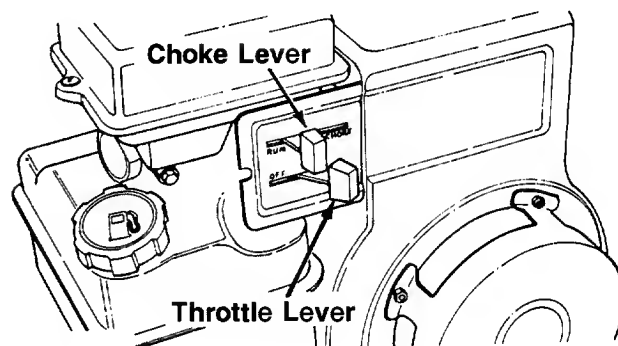

FIGURE 9.
1. Place throttle control lever on the engine in FAST position. See figure 9.